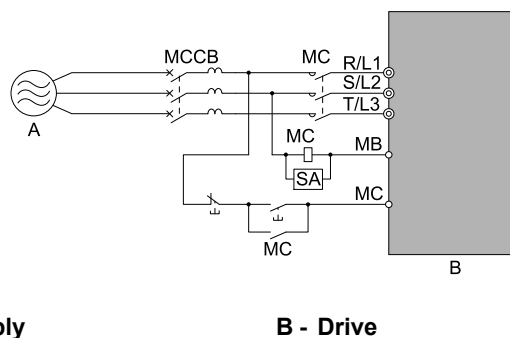

Figure 3.53 Connect an MCCB
- When you connect more than one drive to one MCCB or RCM/RCD that is shared between multiple drives or with other equipment, refer to Figure 3.53 and use a magnetic contactor (MC) and set a sequence that de-energizes the drive when it outputs errors.